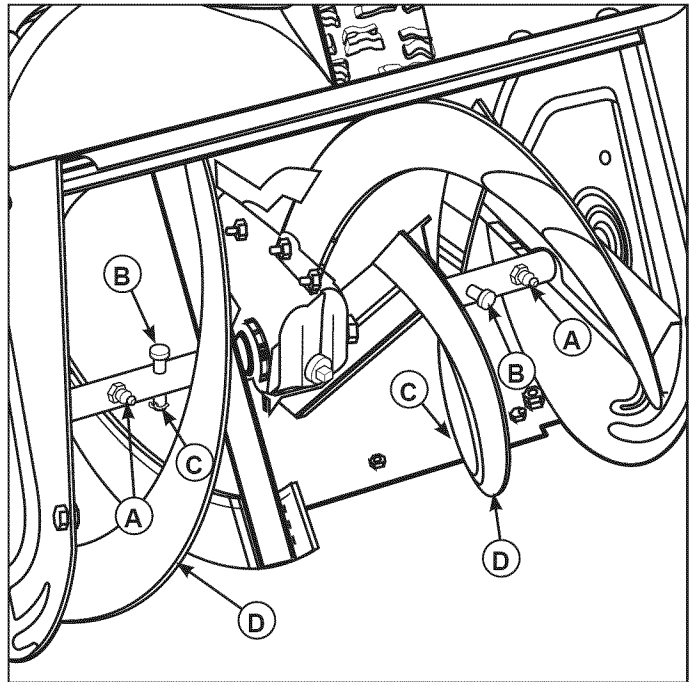

Figure 33. Lubricate Auger Shaft Assembly
1. Remove cotter pin (C, Figure 33) and shear pin (B).
2. Use a grease gun and squirt several shots of grease into grease fitting (A).
3. Rotate auger assembly (D) several times to distribute the grease evenly. Repeat Step 2.
4. Reinstall shear pin (B) and cotter pin (C).